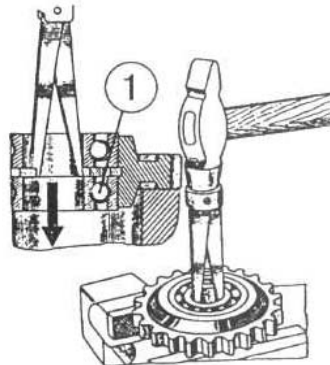

Figure 4.43
- e) press bearing 1 (Figure 4.43) off gear;